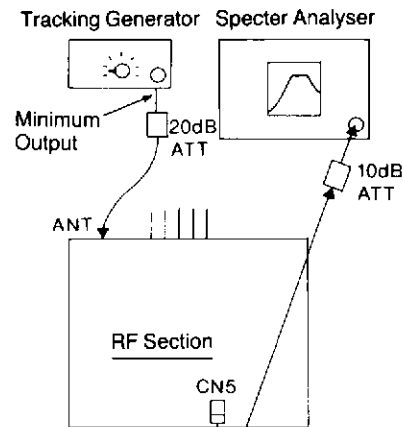
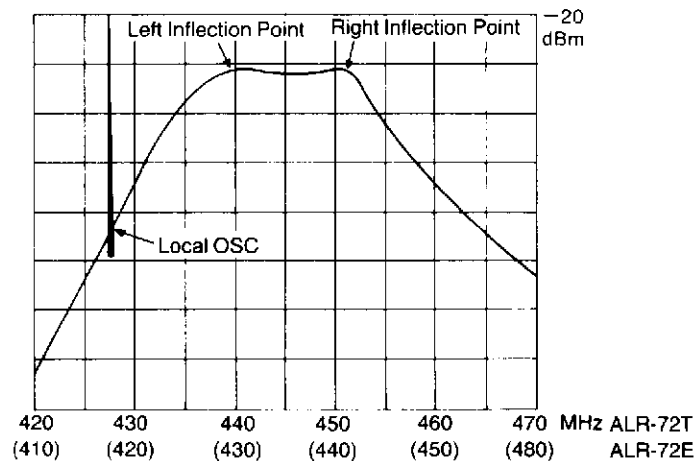

Fig. 1
Fig. 2
- (1) Set the receiving frequency to 450.00 MHz (for ALD 24E; 440.00 MHz).
- (2) Make the connections as shown in Fig. 1.
- (3) Turn VC401 to 403 and L407 to 409 so that the middle frequency 445.00 MHz (for ALD 24E; 435.00 MHz) indicates the maximum level.
- (4) Turn L407 and L408 to keep the value at the left inflection point of the curve around 440 MHz (for ALD 24E; 430 MHz).
- (5) Turn L409 and VC402 to keep the value at the right inflection point of the curve around 450 MHz (for ALD 24E; 440 MHz).
- (6) Turn VC401–403 again to balance the values of right and left inflection points.
- (7) Repeat (4)–(6) until the curve behaves in the same pattern as shown in Fig. 2.
- (8) Disconnect the CN5 cable and connect the antenna terminal to SG.
- (9) Send signals to the antenna terminal of the unit, on which the SG frequency is set on 450.00 MHz (for ALD 24E; 440.00 MHz), the output level on  $15$  dB $\mu$ , the modulation frequency on 1 kHz and the modulation degree on 3.5 kHz.
- (10) Turn L411 so that it indicates the minimum distortion degree.
- (11) Adjust VR406 so that all indicators of the S meter illuminate.